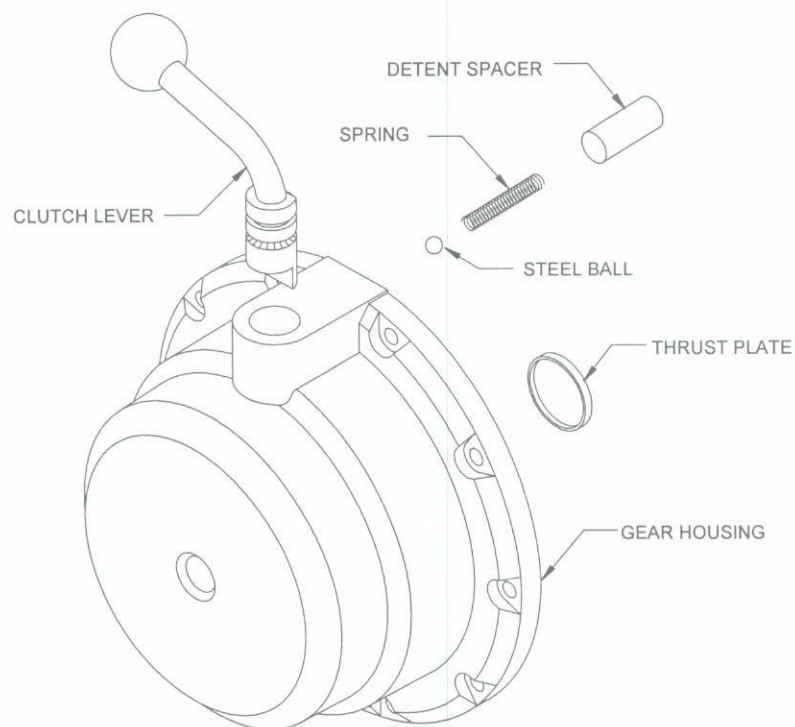

Figure 2.7
8. Remove the detent spacer, spring and ball from a hole in the flange of the housing (*Figure 2.7*). Pull the clutch lever out of the housing. **NOTE:** If your winch is equipped with a mechanical remote clutch, see Appendix 4.1 for removal.
9. The gear housing has a small, hardened steel thrust plate attached to the inside (*Figure 2.7*). Remove it by hand if it is loose. If it is not loose and is in good condition, do not remove; it will be reused.
1. Stand gear housing with bolt flange facing upward so the inside of the housing can be seen. If the thrust plate was previously removed, clean the new thrust plate and the gear housing boss with a solvent that won't leave a residue or film. Apply a good grade of silicone RTV to the boss and press thrust plate into place until it stops. Let silicone fully cure before proceeding. **NOTE:** Using epoxy or other "hard" adhesives for attaching the thrust plate will not work as well as silicone RTV (*Figure 2.7*).
2. Install the clutch lever by reversing Step 8 of the Section 2.1.1. Apply a light coat of machine oil to the clutch lever hole before installation (*Figure 2.7*).